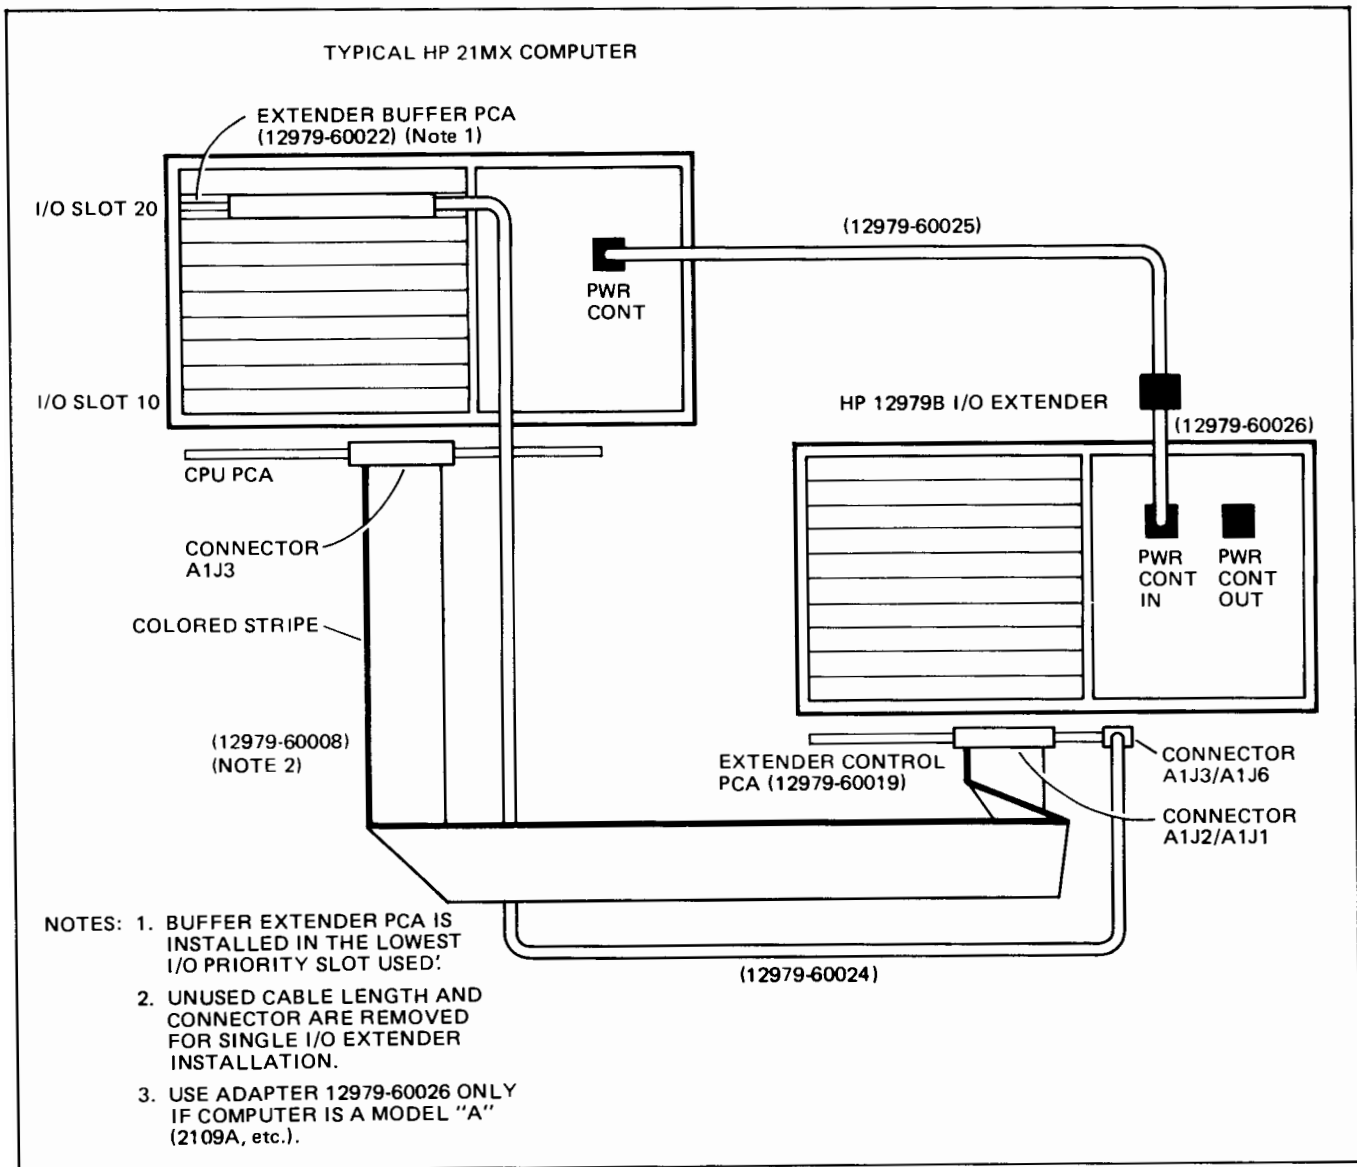

Figure 1-6. Single I/O Extender, Interface to Computer (Rear View)
**1-21. ONE EXTENDER; ONE COMPUTER.** Figure 1-6 is a cabling diagram for one computer and one I/O extender. Proceed as follows to set up the configuration shown in figure 1-6:
The colored stripe on the flat I/O extension cable must always be farthest from the power supply whether the cable is connected to the extender or the computer. (See figure 1-6.)